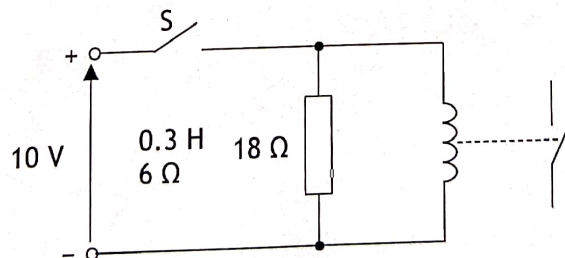

Fig Q2
- (a) Indicate and label the currents in the four arms of the bridge using I_1 , I_2 and I_3 . (2)
- (i) the value of resistor R; (7)
- (ii) the power supplied by the battery; (2)
- (iii) the voltage between B and D if the 300Ω resistor is removed. (5)
2. ✓ Fig Q2 shows a relay coil connected in parallel with a resistor. The relay operates when the current in the coil rises to 50 mA, and is released when the current falls to 5 mA.
- (i) the time constant of the coil; (2)
- (ii) the time delay from closing the switch S to operation of the relay; (5)
- (iii) assuming that the coil current is at maximum, the time delay from opening the switch S to release of the relay. (5)
- (b) Using approximately scaled axes, sketch a graph of the coil current against time for switch-on, indicating operating current and time, and the final current. (4)